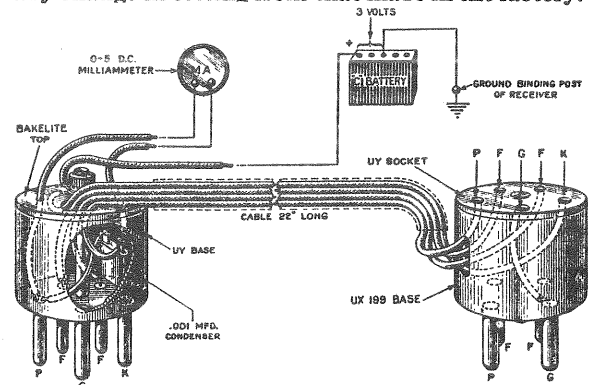
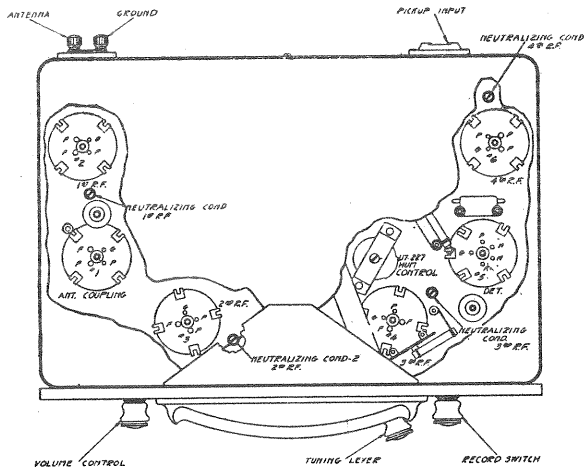
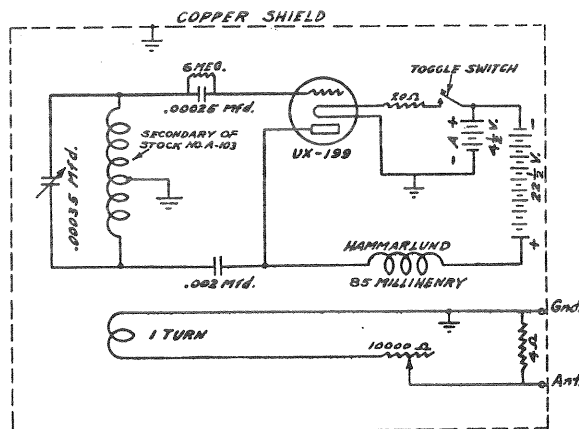

Fig. 4—Circuit for Tube Voltmeter, Na-Ald. No. 982
Fig. 5—Top View of Radio, Showing Radiotron Sockets
Fig. 6—Schematic Wiring Diagram, Modulated Oscillator
must lie in the radio set, and reference should be made to subject 7 below. If there is no record reproduction, reference should be made to subjects 8 and 9 below. It is recommended that a tube voltmeter, such as shown in Fig. 4 and a Weston or Jewell test box be used for isolating trouble in the radio set.
- c. Remove the tube in socket No. 1, Fig. 5, (coupling stage), place the UX adapter in this socket with the UY-227 in the socket of the adapter. Note the meter reading when all connections are made in accordance with Fig. 4 and no station is being received.
- d. Place the UX adapter in socket No. 2, Fig. 5, (1st R. F.), and note a slight increased meter reading when a powerful local station is tuned in. Note: If such a broadcast signal is not available, a modulated oscillator, such as shown in Fig. 6, can be used.
- Tune in a powerful local station, preferably near the high frequency end of the scale. If such a signal is not available, a modulated oscillator, such as shown in Fig. 6, can be used to supply the signal. If the oscillator is used, it should be placed near the radio set and approximately three feet of wire used as an antenna on the set.